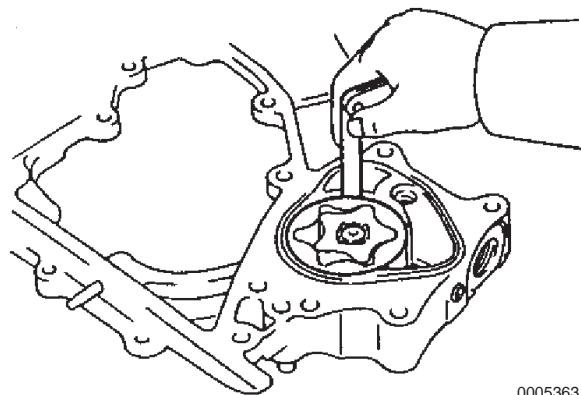

Figure 8-11
6. Check the clearance of the rotor body by measuring the clearance between the driven rotor and rotor body using a feeler gauge (Figure 8-11). If the measured clearance exceeds the specified maximum, replace the oil pump assembly.